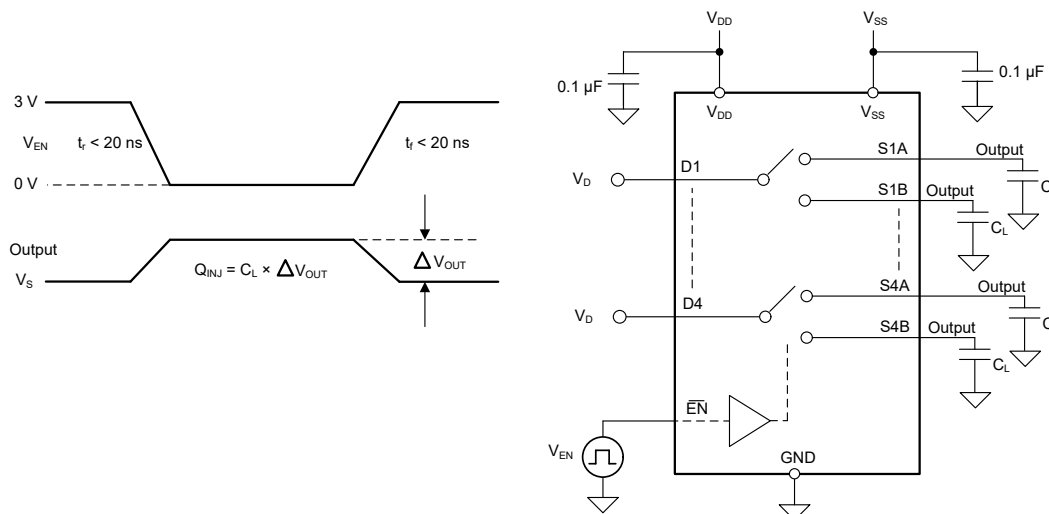

Figure 7-9. Charge-Injection Measurement Setup
The TMUX7234 has a transmission-gate topology. Any mismatch in capacitance between the NMOS and PMOS transistors results in a charge injected into the drain or source during the falling or rising edge of the gate signal. The amount of charge injected into the source or drain of the device is known as charge injection, and is denoted by the symbol Q_{INJ} . Figure 7-9 shows the setup used to measure charge injection from source (S_x) to drain (D).